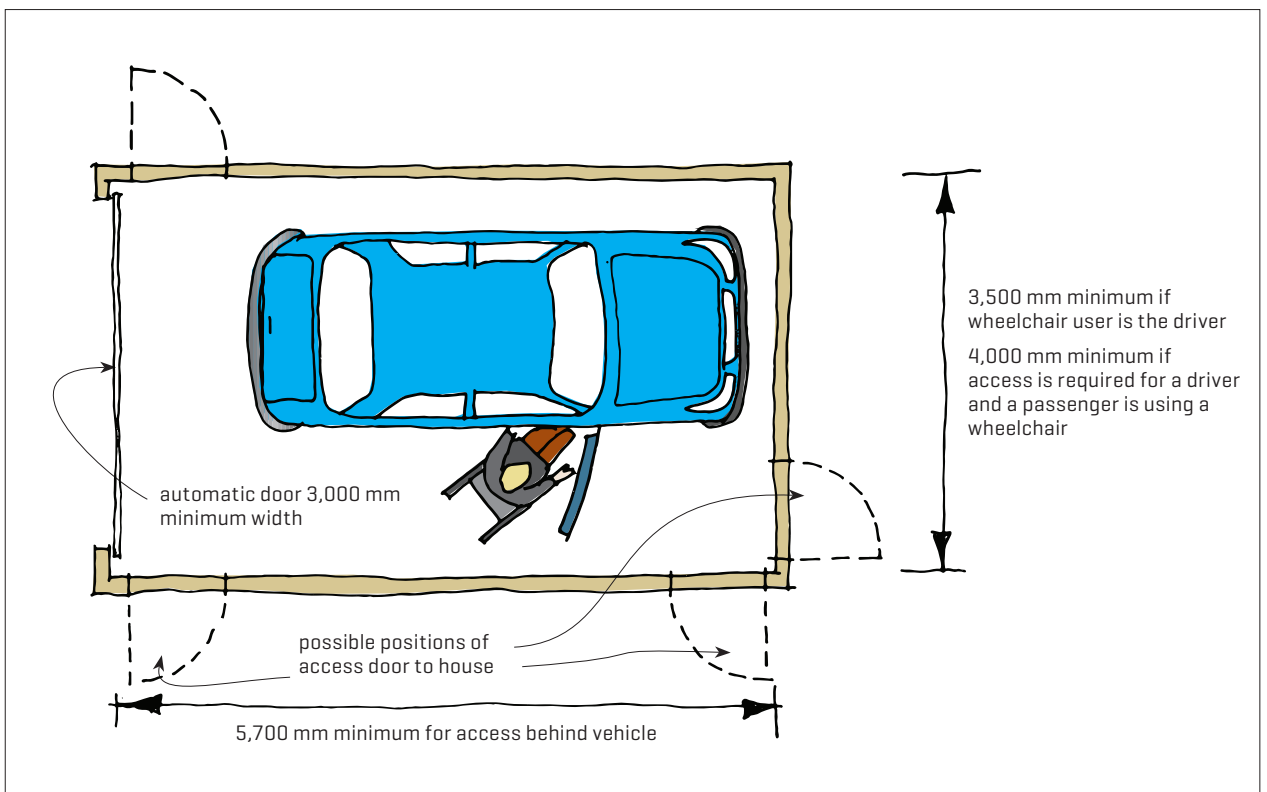

Figure 2. Minimum dimensions for an accessible single-space garage for a car. A larger area may be needed for larger vehicles.
3.0.6 Single-sized garages should be at least 3,500 mm wide if the driver uses a wheelchair and at least 4,000 mm if the passenger uses a wheelchair and is driven [Figure 2]. The garage should be at least 5,700 mm long to allow access around the vehicle.
3.0.8 Internal doors into the dwelling should be level entry and located in accessible positions where there is room to manoeuvre [Figure 2]. Alternatively, if internal access from the garage is not possible, the route to the dwelling's entrance should be a step-free accessible route.